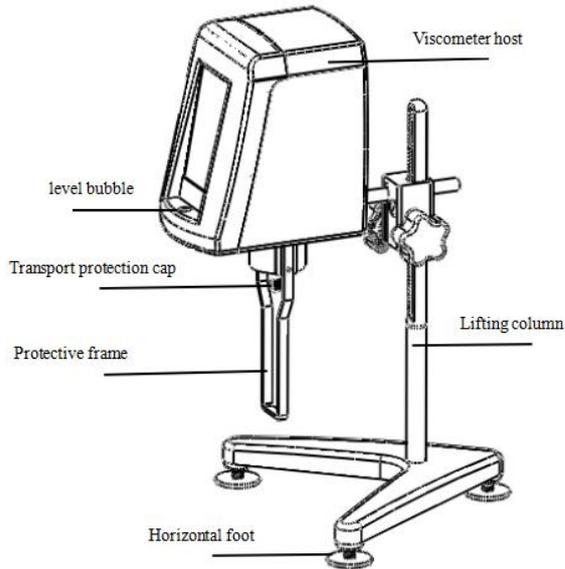

Fig. 2
(4) Remove the protective cap under the instrument.
(5) Connect the instrument to the power supply, and the assembled shape is shown as Fig. 2.